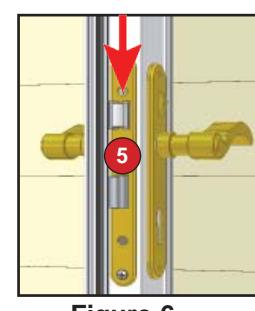

Figure 6
- Install lock case trim plate onto lock case and fasten with one #10 x 5/8" screw. (Figure 6)